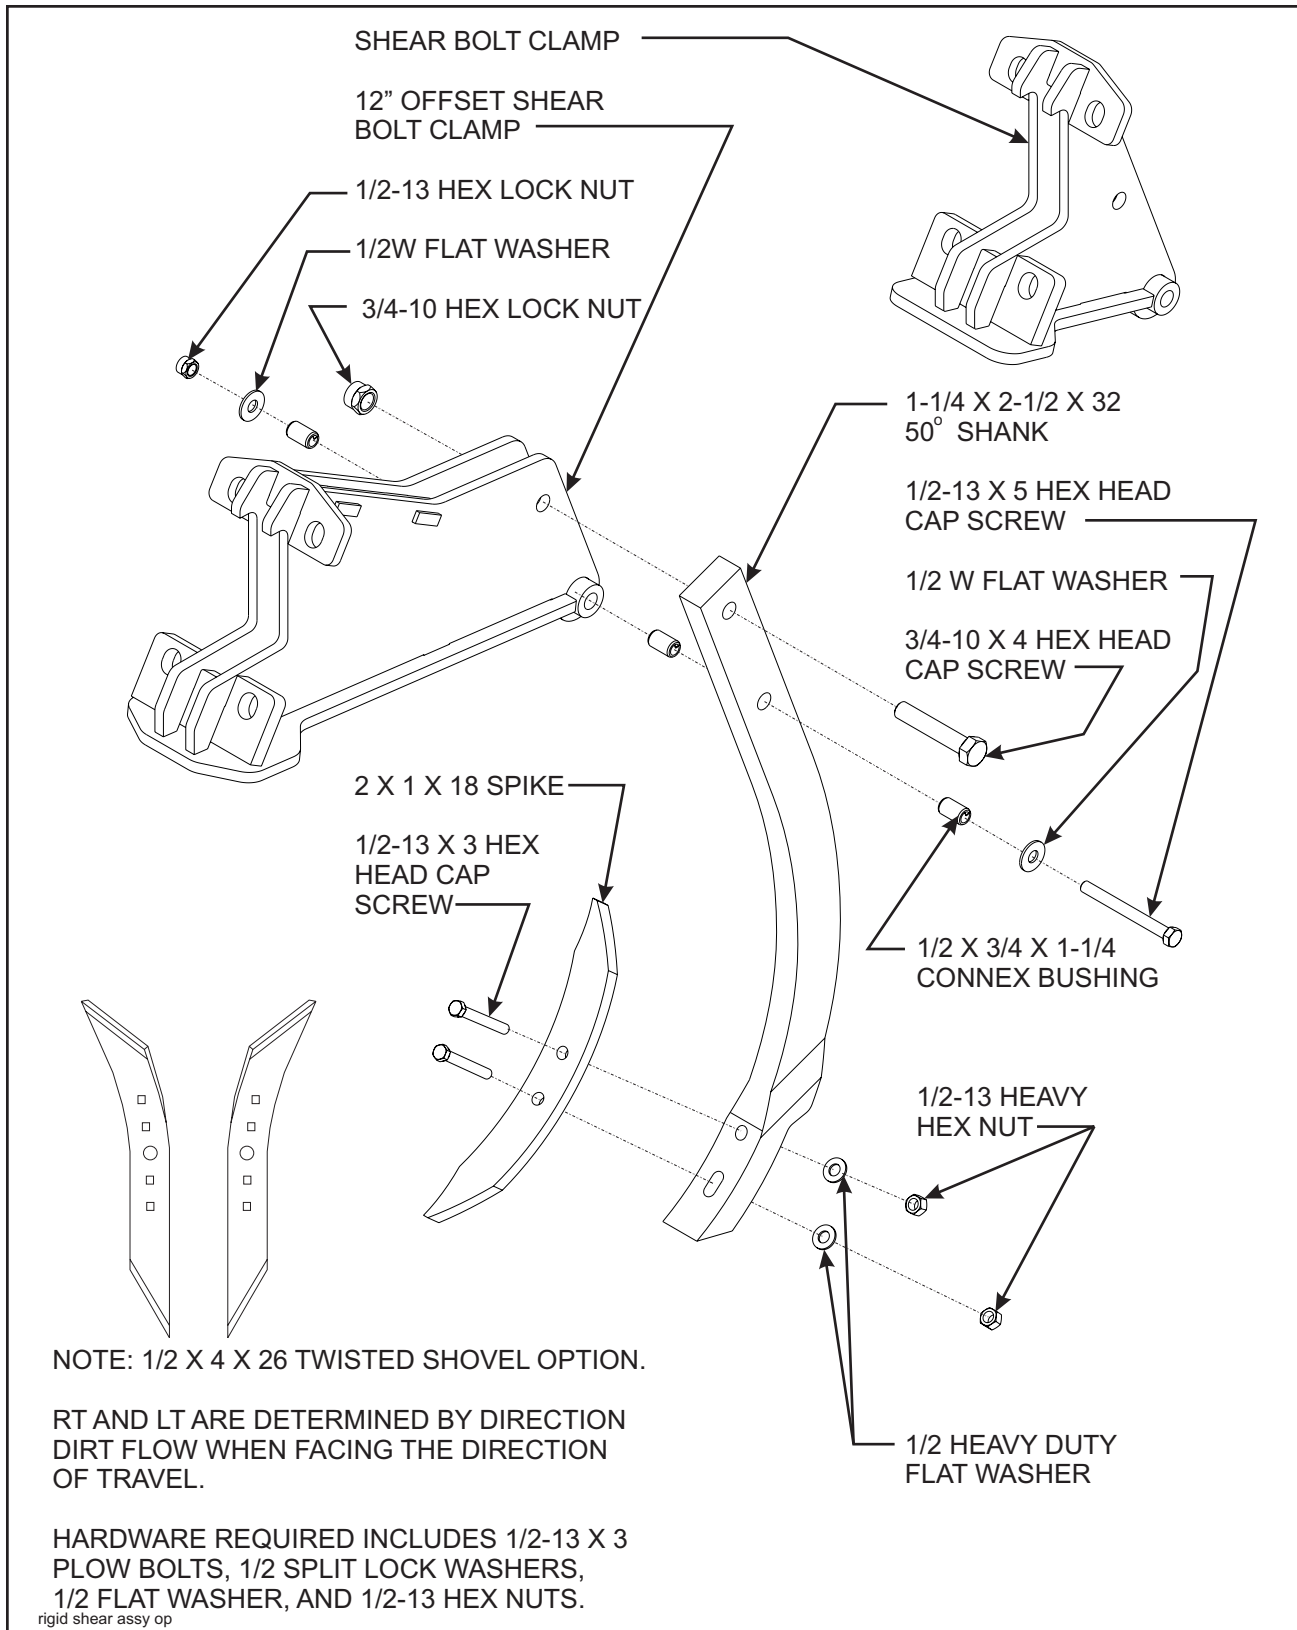

Figure 3-7 Rigid Shear Shank and Shovel Installation
3-8.1 Attach each shank assembly to each clamp assembly using 3/4-10 x 4 hex head cap screws and hex lock nuts in the top hole and 1/2-13 x 5 hex head cap screw, flat washer, and hex lock nut in the lower hole (See Figure 3-7).
- a. Connect 2 x 1 x 18 spike to each shank using 1/2-13 x 3 hex head cap screws, flat washers, and heavy hex nuts (See Figure 3-7).
- 3-9.1** Attach each shank assembly to each clamp assembly using 3/4-10 x 4 hex head cap screws and hex lock nuts in the top hole and 5/8-11 x 5 hex head cap screw and hex lock nut in the lower hole (**See Figure 3-7**).
- a. Connect 2 x 1 x 18 spike to each shank using 1/2-13 x 3 hex head cap screws, flat washers, and heavy hex nuts (**See Figure 3-7**).